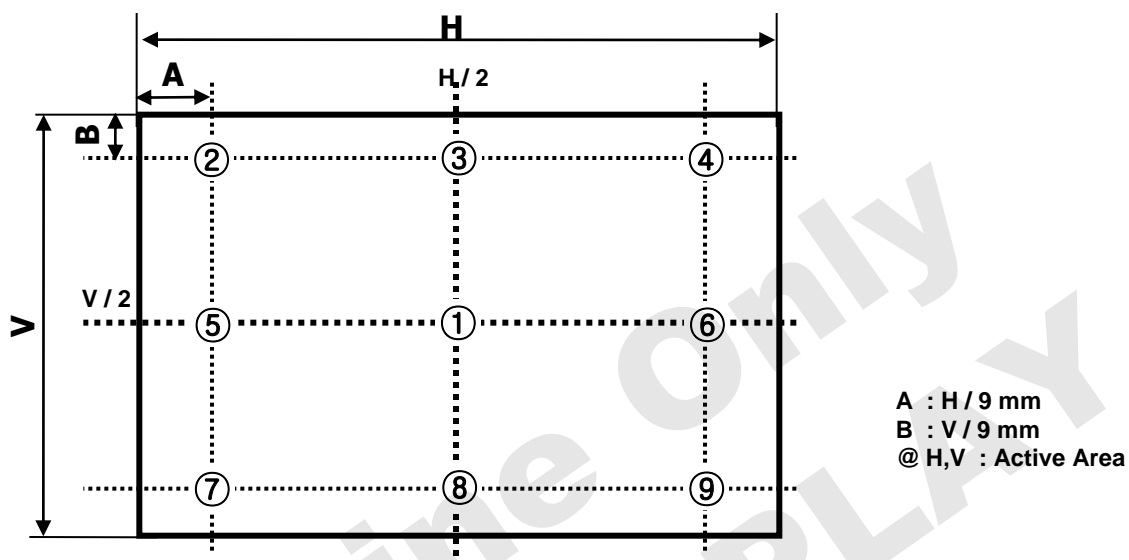

FIG. 3 9 Points for Luminance Measure
2. Surface luminance are determined after the unit has been 'ON' and 1 Hour after lighting the backlight in a dark environment at $25 \pm 2^{\circ}\text{C}$. Surface luminance is the luminance value at center 1-point across the LCD surface 50cm from the surface with all pixels displaying white. For more information see the FIG. 3.
For more information, see the FIG. 3.